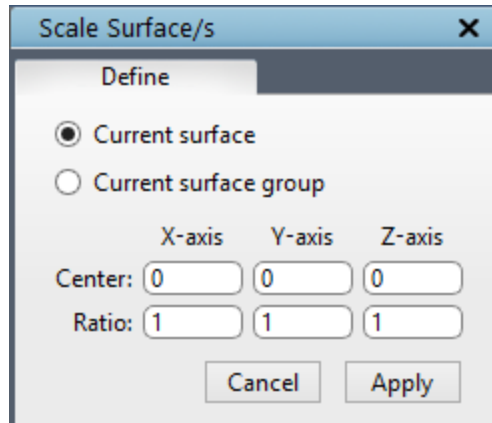

Figure 3.30: Scale surface dialog box
**Refine** button. It can scale either current surface or active surface group. Scaling can be done by giving the scaling center and the ratio of scaling in all three directions. Figure 3.30